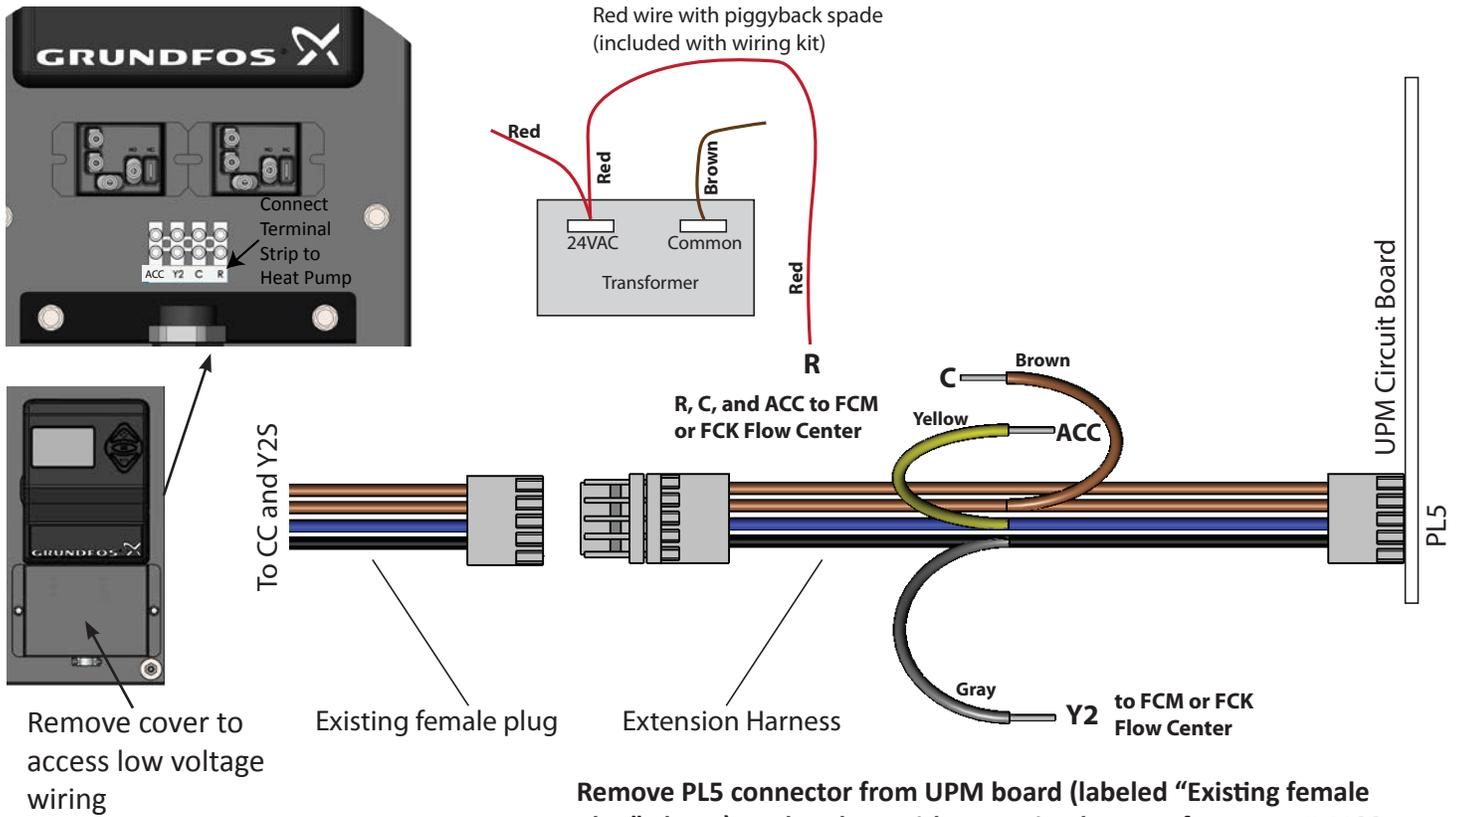

Figure 3: Low Voltage Wiring at Heat Pump (Communicating Controls)
4. Wire LOW VOLTAGE CONNECTIONS (heat pumps with communicating UPM board only). Remove connector PL5 from the UPM board (see Figure 3 and Table 1). Replace with wiring harness extension from kit, and re-attach original PL5 connector to the other end (male pins) of the extension. Disconnect red wire from secondary side of transformer (see Figure 3). Replace with red wire from kit (piggy-back end), and re-attach original red wire to the piggy-back terminal. Use stripped end of the red wire to connect to terminal R at the flow center.
**IMPORTANT: Step #4 is for units with communicating UPM. If heat pump has non-communicating UPM, use kit with brown wire (piggy-back spade connector on one end). DO NOT use wiring harness in Figure 3.**
**IMPORTANT:** Figure 3 and Table 1 are for heat pumps with communicating UPM board only. If heat pump has non-communicating UPM board, use kit with brown wire (piggy-back spade connector on one end). DO NOT use wiring harness in Figure 3.
ACC	Yellow wire in P5 extension harness (Figure 3)
Y2	Gray wire in P5 extension harness (Figure 3)
C	Brown wire in P5 extension harness (Figure 3)
R	Red wire with piggyback spade, connected at transformer terminal (Figure 3)